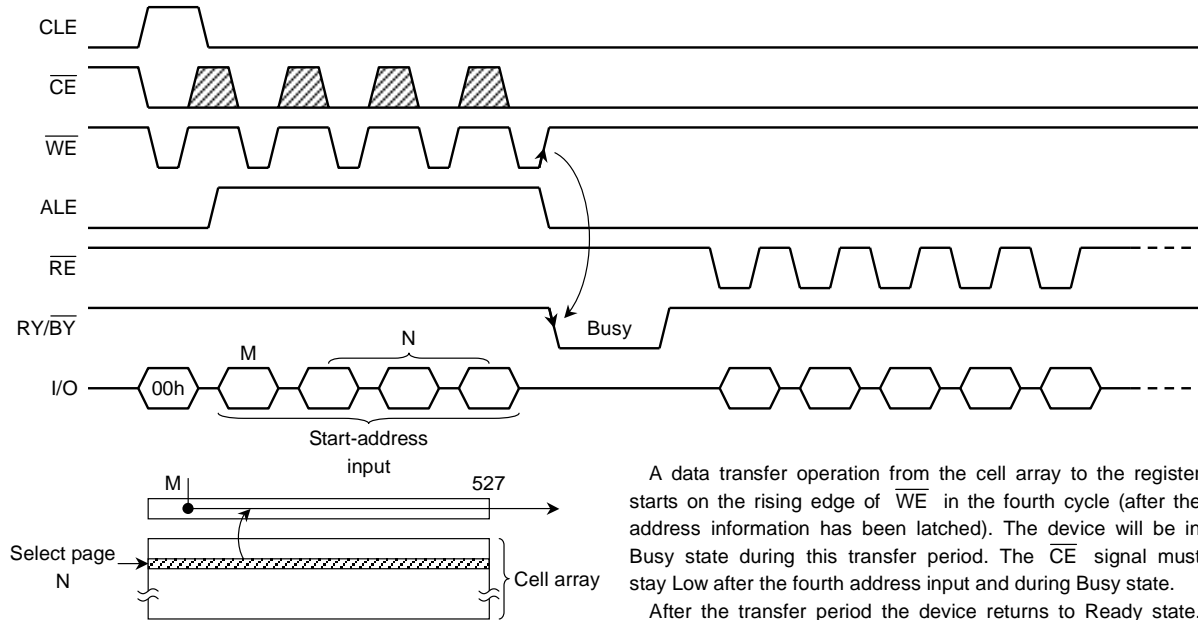

Figure 3. Read mode (1) operation
Read mode (1) is set when a “00h” command is issued to the Command register. Refer to Figure 3 below for timing details and the block diagram.